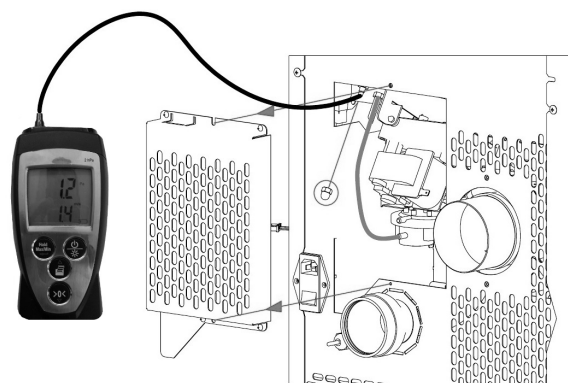

Fig. 77 - Digital pressure switch connection
- Connect a digital pressure switch with a tube to detect the depression (see **Fig. 77**).